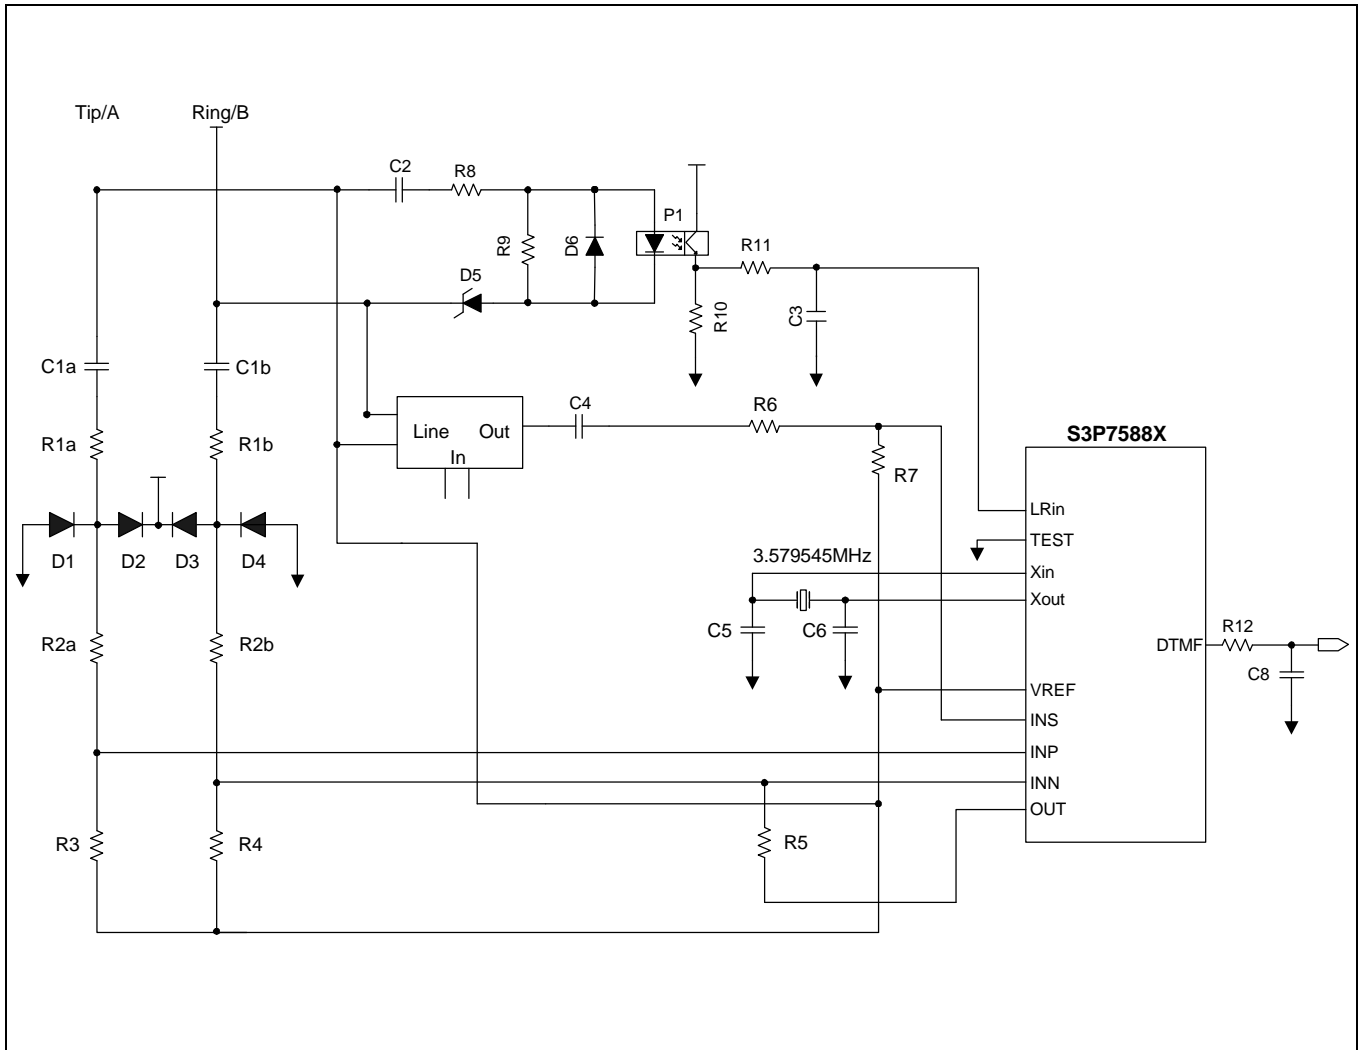

**Figure 7-1. Application Diagram for S3P7588X Development System with KS57C5208 SMDS**
**NOTE:** Other ports must be floated from the development board. That is SMDS board must feed these ports to the development board. (see Figure 7-1)
Figure 7-1 represents overall interconnection between the development board and SMDS of KS57C5208/ KS57C5308.